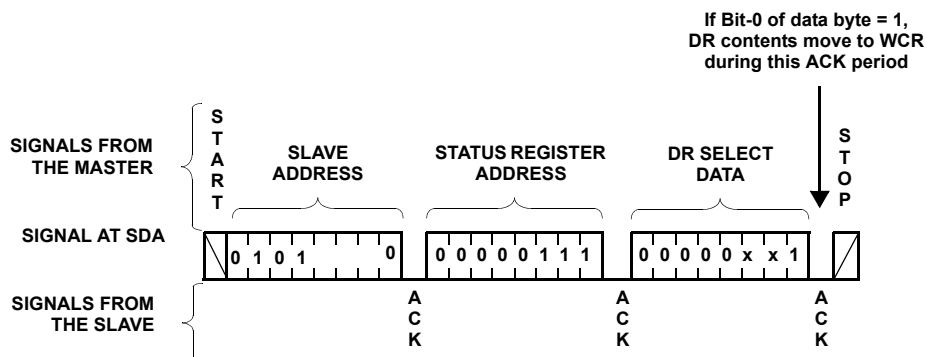

FIGURE 6. STATUS REGISTER WRITE (USES STANDARD BYTE WRITE SEQUENCE TO SET UP ACCESS TO A DATA REGISTER)
13. Load the status register (using a write command) to select the row (see Figure 6)